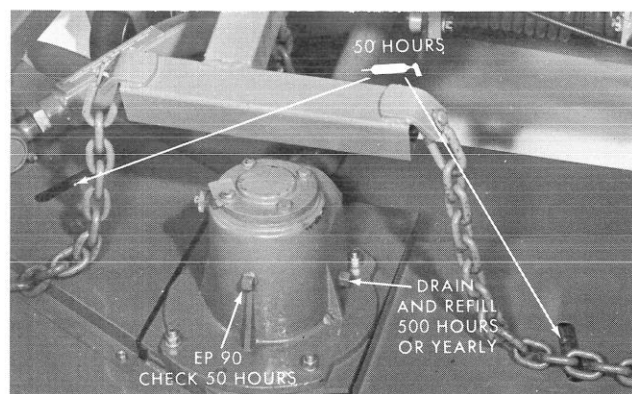

Figure 31
**Universal Shaft & Joints (3)** — Service every 50 hours with chassis lubricant.
**Gear Box** — Lower cutting deck so caster wheels are on level surface. Remove level plug (front) and check oil level. Replenish if necessary with SAE 90 EP gear oil. See Figure 31.
**Steering Gear (1)** — Service every 50 hours with chassis lubricant.
**Brake Pedals (2)** — Service every 50 hours with chassis lubricant.
**Caster Wheels and Pivot Shafts (8)** — Service every 50 hours with chassis lubricant.
**Push Arms (4)** — Service every 50 hours with chassis lubricant.
**Rear Axle (4)** — Service every 50 hours with chassis lubricant.
**Gear Box** — Every 500 hours, or yearly (whichever comes first) drain the gear box and refill to level plug opening with SAE 90 EP Gear Oil. The capacity of the gear box is approximately one pint. See Figure 31.